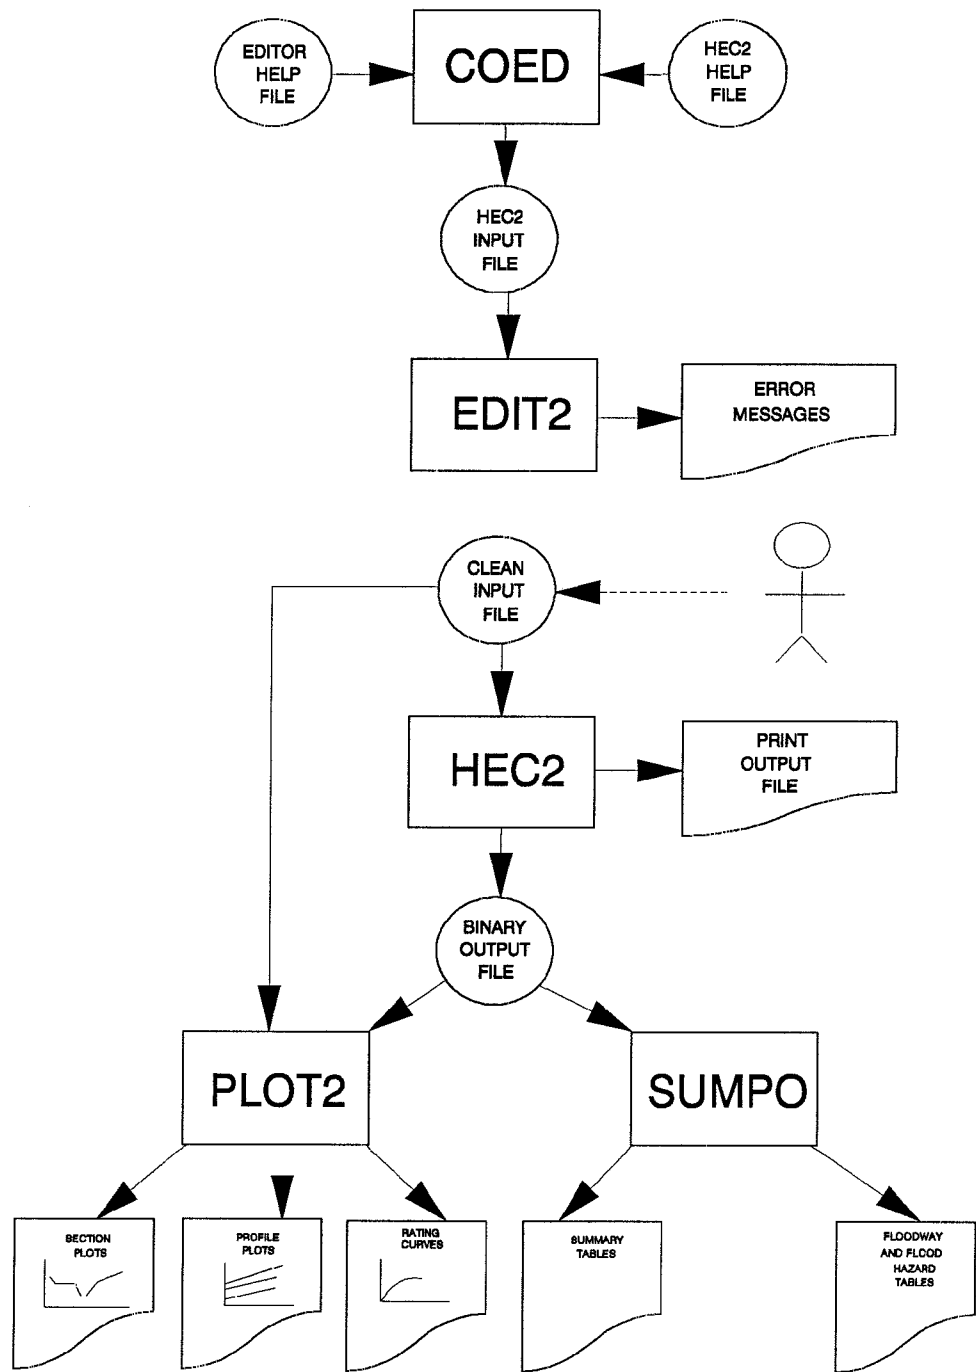

Figure 1
Once the cross section and field information has been gathered, the basic steps for computing water surface profiles include: (1) develop a data file that represents the physical reach under study, (2) check the data file for proper format and data errors, (3) compute water surface profiles, (4) review and evaluate computed results, and (5) produce required displays of computed results. The computational process is illustrated in Figure 1. The programs provided with the HEC-2 package provide the necessary tools to accomplish all the basic steps on a PC.
1. You will need to create three directories. One of the directories should be labeled \HECEXE. This directory will be used to store all of the HEC executable programs. A second directory should be labeled \HECEXE\SUP. This directory will be used to store all of the supplemental files required by the executable programs. A third directory should be created to store data files. This data directory can be given any name. As shown in Figure 1, you may want this data directory to represent a specific project, person, or program. To accomplish these tasks do the following: